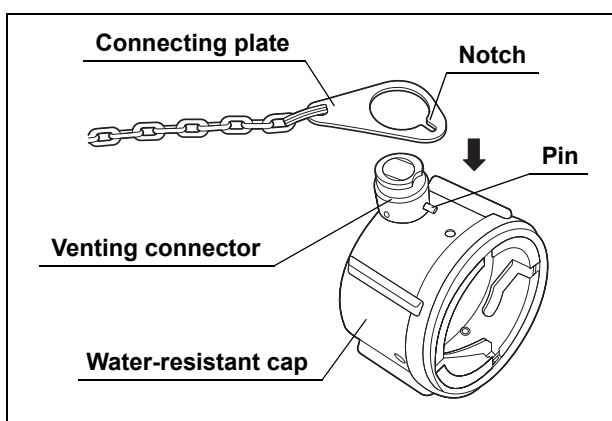

Figure 2.2
2. Align the notch on the connecting plate with the pin on the venting connector of the water-resistant cap (MH-553, see Figure 2.2).
3. Place the connecting plate over the venting connector (see Figure 2.2).
4. Confirm that the connecting plate is securely attached to the foot of the venting connector and can be smoothly rotated (see Figure 2.2).